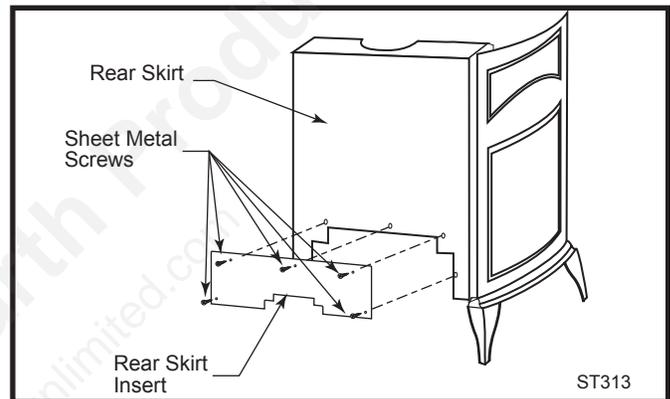
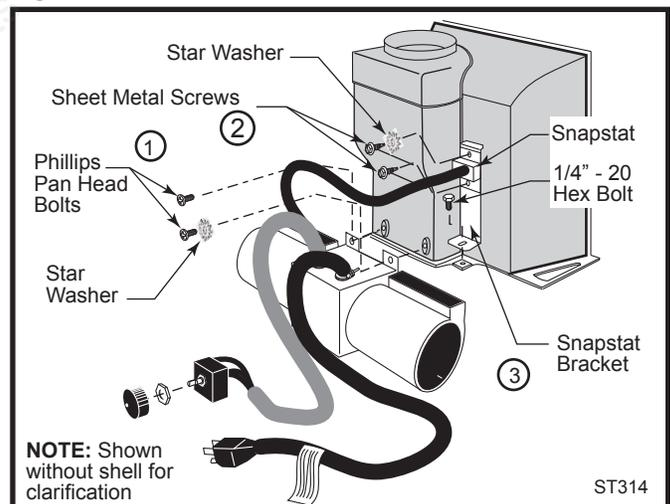
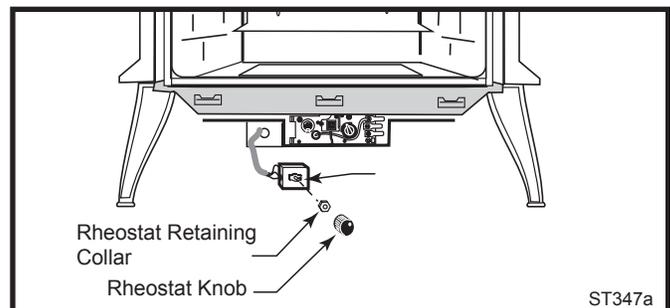

Fig. 13 Remove rear skirt insert.
Fig. 14 Attach the fan assembly and the snapstat.
Fig. 15 Attach the fan rheostat.
- Remove the rear skirt insert panel at the bottom of the Rear Skirt (Fig. 13) and fasten the blower assembly to the firebox back with the two Phillips pan-head bolts originally installed in the firebox back. ('1', Fig. 14)
- Attach the snapstat assembly to the snapstat bracket with two sheet-metal screws. ('2', Fig. 15) Attach the snapstat bracket to the stove with a hex-head bolt passing through the bracket and into the stove base. ('3', Fig. 14)
- The rheostat control switch attaches to the left side of the valve bracket at the front of the stove. (Fig. 15)